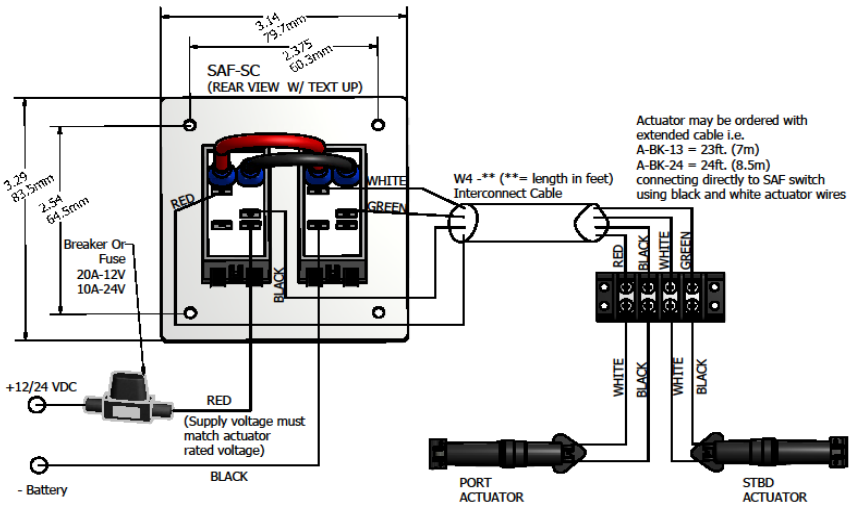

Fig. 4
1. KA Kits include actuators with 6' (1.8m) extended cable and 20' (6.1) cable (W4-20) to attach from the actuators to the control switch (see Fig. 4). This cable is also available in longer lengths. Visit www.lectrotab.com for additional cable lengths listed under Products/Individual Parts and Accessories.
5. Crimp the fork terminals to the cut end of the black actuator cable and connect to the 4-lug terminal strip per Fig. 4.
6. Crimp the fork terminals to the cut end of the 4-conductor gray cable (W4-20) and attach to the 4-lug terminal strip per Fig. 4.
2. If the W4-** cable is used to connect the switch to actuators, route the cut cable end from the Rocker Switch to the transom terminal strip. The push-on terminal end of the 20' (6.1 m) 4-conductor, 14 AWG (2.08 mm squ.) cable connects to the Rocker Switch (KA Kits), or route the longer 23' (7m) actuator cable directly to the Rocker Switch (XKA Kits). Connect cable to switch as shown in Fig. 4.
3. Connect a fused 12vdc power source as shown in Fig 4. **Power source voltage must match the actuator voltage.**